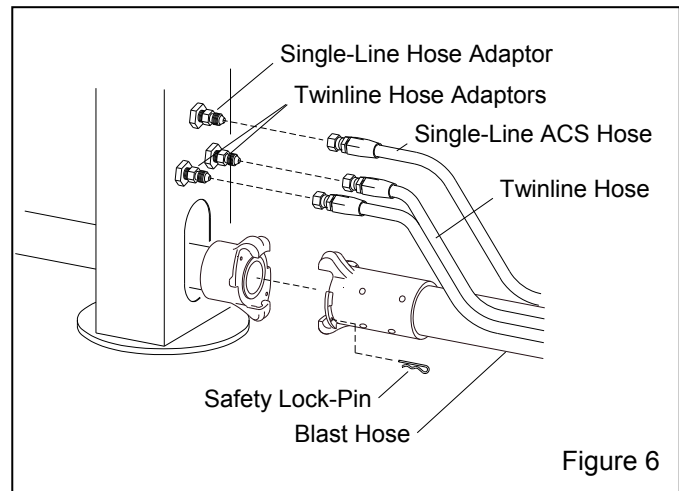

Figure 6
3.2.5 Attach the ends of the 50-ft. twinline hose to the lower adaptors in the bulkhead fittings on the front leg as shown in Figure 6. Either side of the twinline hose can be attached to either fitting. Make sure all fittings are tight. Leaks will cause the system to malfunction.
3.2.6 Attach the end of the 50-ft. single-line to the top adaptor as shown in Figure 6. Make sure all fittings are tight. Leaks will cause the system to malfunction.